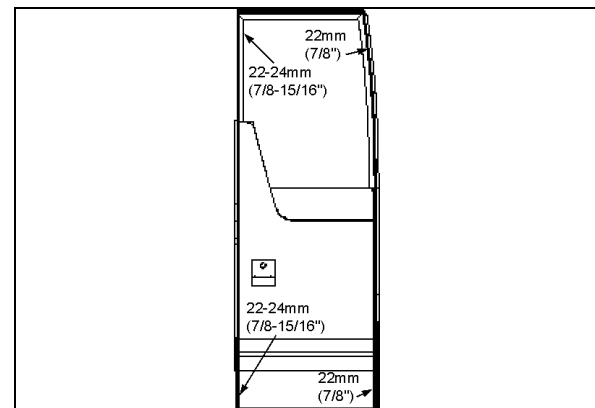

FIGURE 26: SEAL COMPRESSION ADJUSTMENT 18632
1. From the outside of vehicle, insert a straight edge in the gap along the door outside perimeter. Measure the distance between the door frame and the door outside surface at the door four corners (refer to figure 26).